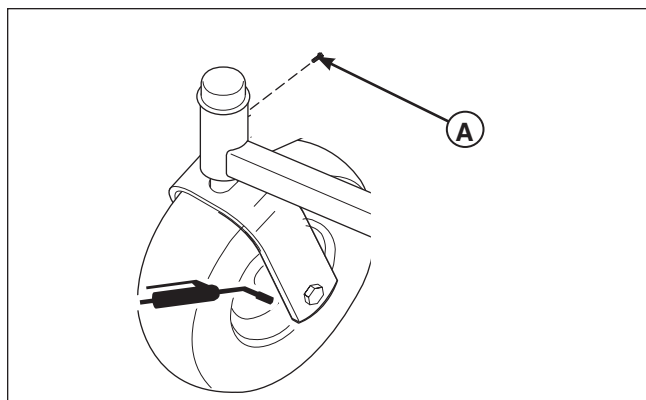

Figure 22. Front Caster & Wheel
1. Remove the 1/4-28 bolt (A, Figure 22) screwed into the front caster and install a 1/4-28 grease fitting.